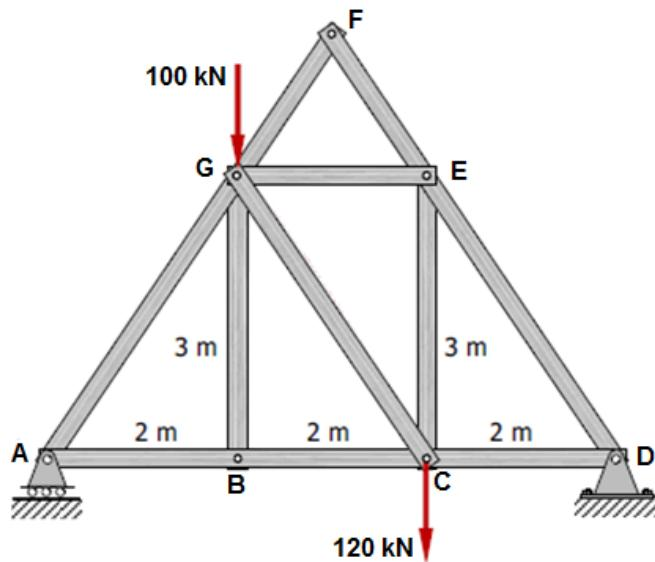

Figure Q4[c]
- [c] The truss pinned to the floor at D, and supported by a roller at point A is loaded as in Figure Q4[c].**